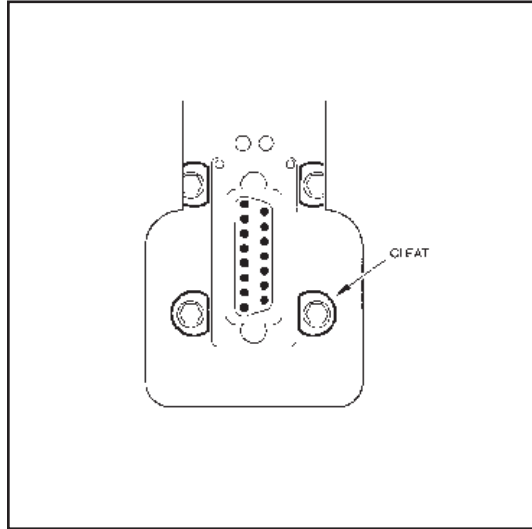

Figure 5.3
In Figure 5.3 on the next page, the furnace arm/base has been removed to better show the location of the screws and alignment of the cleats.
3. Rotate each screw to turn the D-shaped cleat so that the flat edge of the cleat is aligned vertically and parallel with the groove in the furnace arm (Figure 5.3).